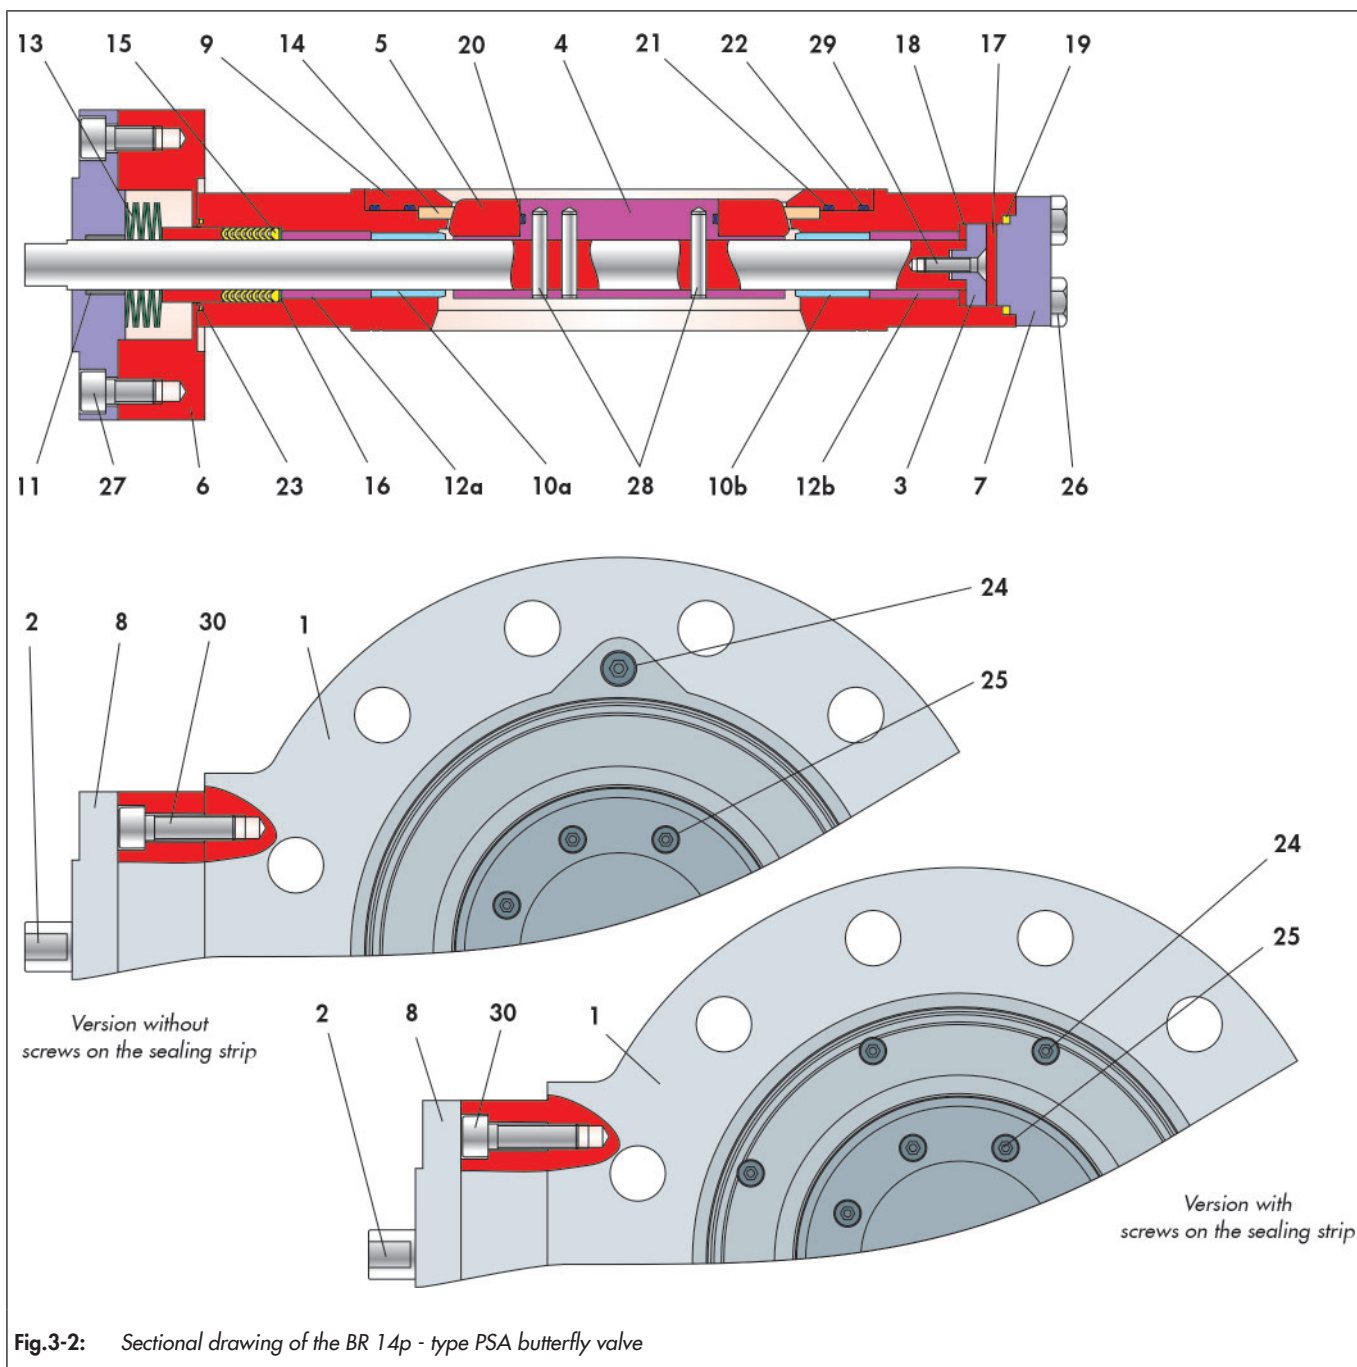

Fig.3-2: Sectional drawing of the BR 14p - type PSA butterfly valve
- ⇒ From the stuffing box side, push the disc (16) over the control shaft to the corresponding position in the valve body.
- ⇒ Push the PTFE V-ring packing (15) over the control shaft into the body bore and press in with an assembly sleeve. Refer to the sectional drawing Fig. 3-2 for the arrangement of the V-ring packing.
- ⇒ Insert the disc spring set (13). The arrangement of the disc springs is shown in the sectional drawing in Fig. 3-2.
- ⇒ Press the bearing bush (11) into the stuffing box flange (8).
- ⇒ Place the pre-assembled stuffing box flange on the intermediate flange and adjust with screws (27).
- ⇒ Tighten the screws (27) evenly and alternately.